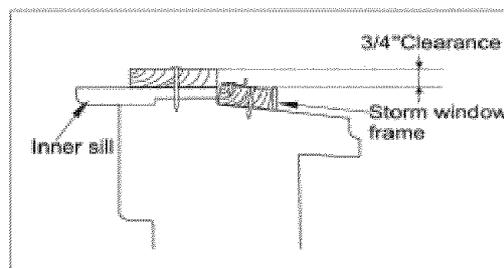

Fig. 8
7. If storm window presents interference, fasten a 2" wide wood strip to the inner window sill across the full width of the sill. The wood strip should be thick enough to raise the height of the window sill, so that the unit can be installed without interference from the storm window frame, as shown in Fig. 8. Top of wood strip should be approximately 3/4" higher than the storm window frame to help condensation to drain properly to the outside. Install a second wood strip (approximately 17" long by 1 1/2" wide and same thickness as first strip) in the center of the outer sill flush against the back of the inner sill.
Screw the L brackets into this strip, this will raise the L bracket as shown in Fig. 8.